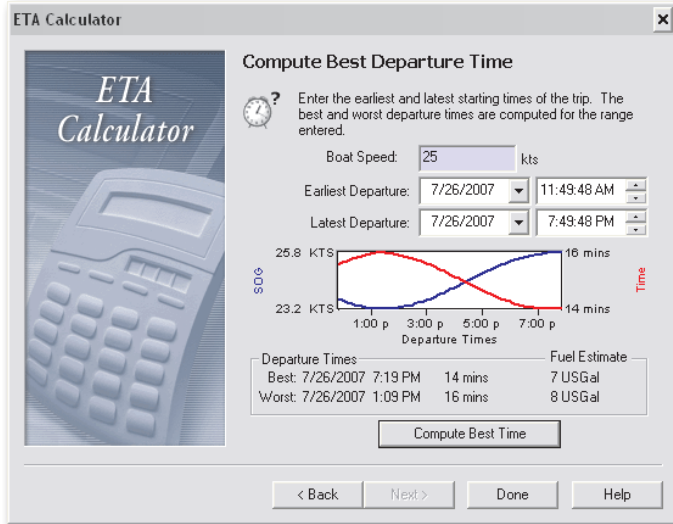

Figure 14.6 - ETA Calculator - Compute Best Departure Time
4. The ETA Calculator will now compute your best and worst departure times and list them in the ETA Calculator window (see **Figure 14.6**).